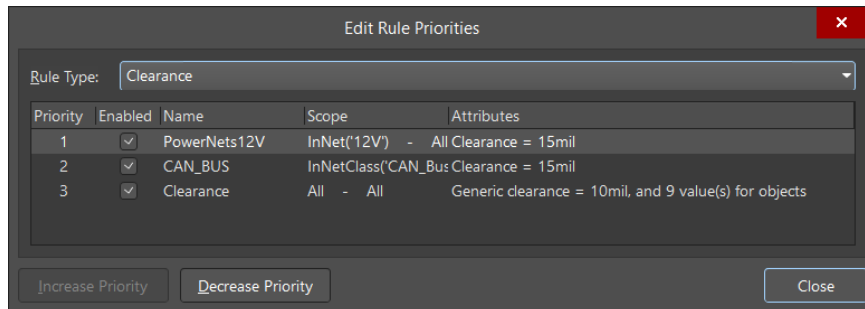

Figure 5. Rule Priorities window
18. Ensure that the newly added rule's priority is number **1** as shown in Figure 5 below. If it's not, select that rule and click **Increase Priority**.